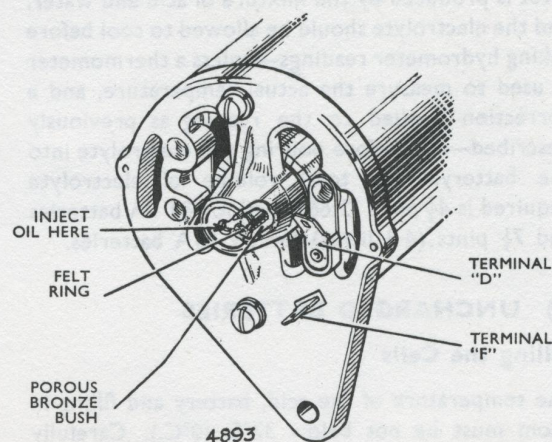

Fig. 2. Generator lubrication
Inject a few drops of engine oil into hole marked "OIL" at the end of the C.E. bearing housing (See Fig. 2). The felt ring acts as a reservoir.
2. Check the Lucas connections on the commutator-end bracket. The larger connector carries the main generator output, the smaller connector the field current (see Fig. 2).